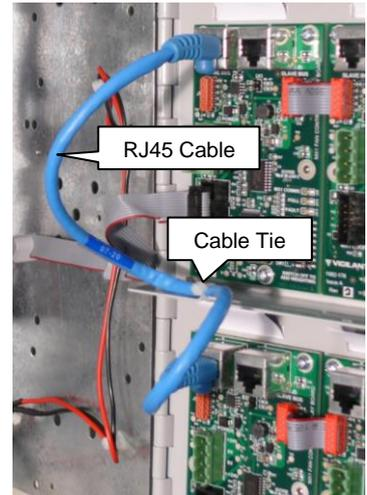

Figure 9 – Wiring multiple doors
7. Wiring Multiple Doors (Figure 9)